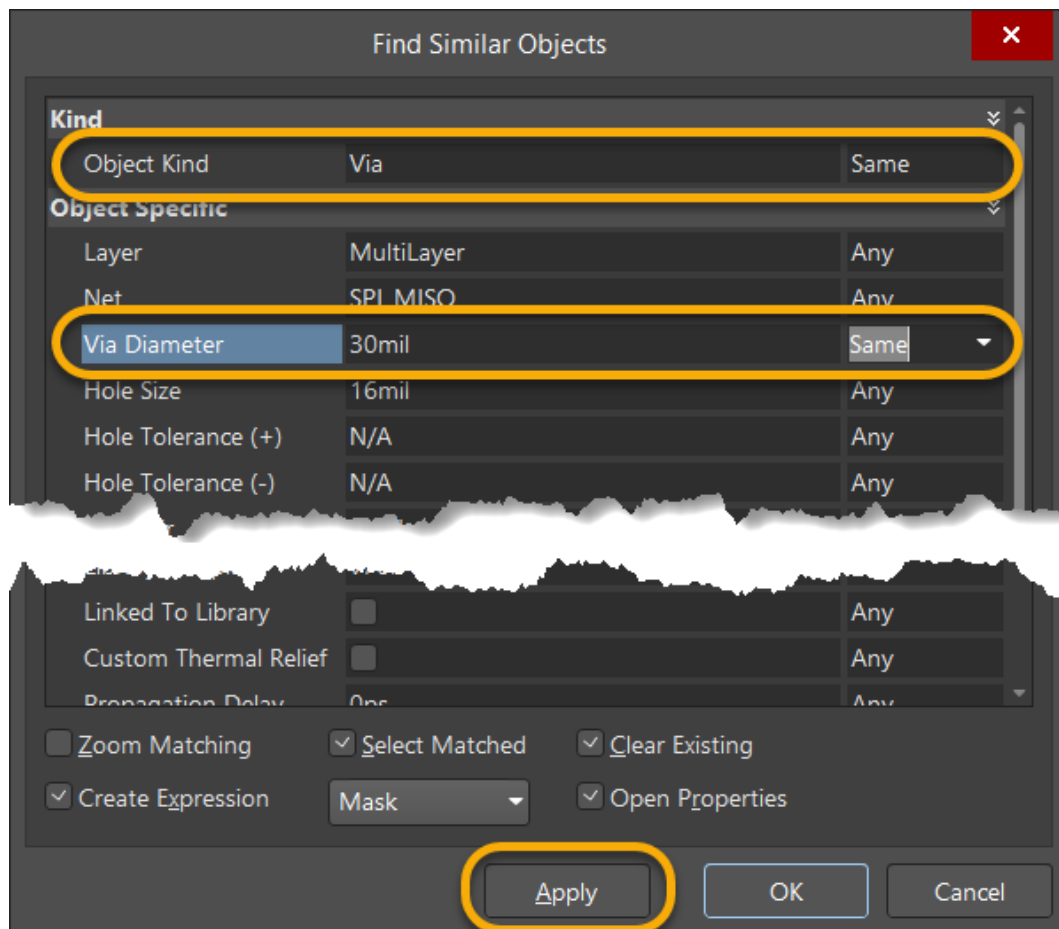

Figure 10. Find Similar Objects dialog to target specific Vias
32. Instead of all the vias, we only want to change the via diameter of the 30mil vias. In the *Find Similar Objects* dialog, set the *Via Diameter* to **Same** as shown in Figure 10 below.